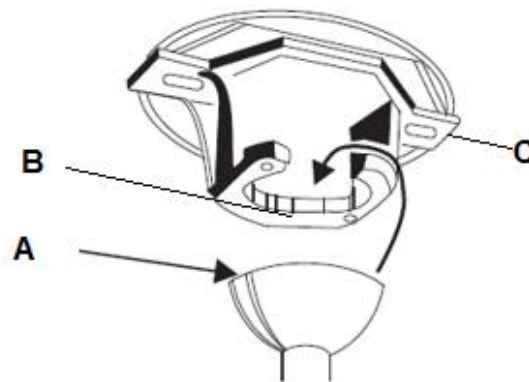

Fig. 5
Lift the fan assembly onto the mounting bracket. Ensure the key slot (A) of the hanger ball is positioned on the key pin (B) of the mounting bracket (C) to prevent the fan from rotating when in operation. (Fig. 5)
- Hang the fan (Refer to “hanging the fan” Fig. 5, page 6).